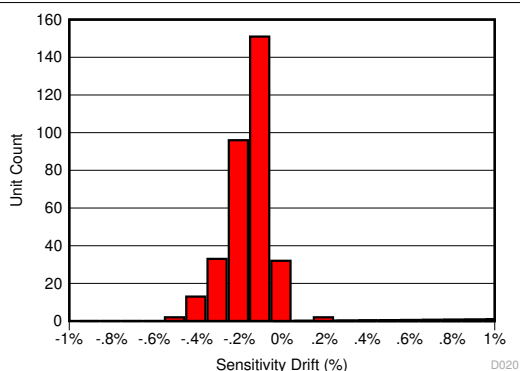
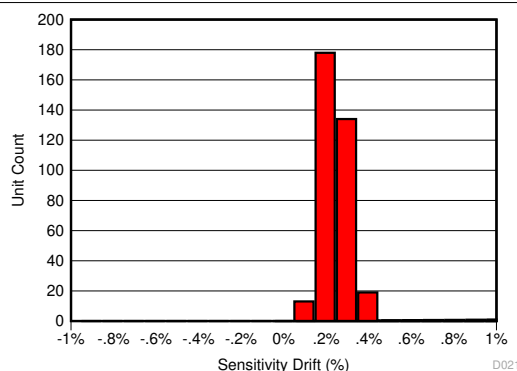
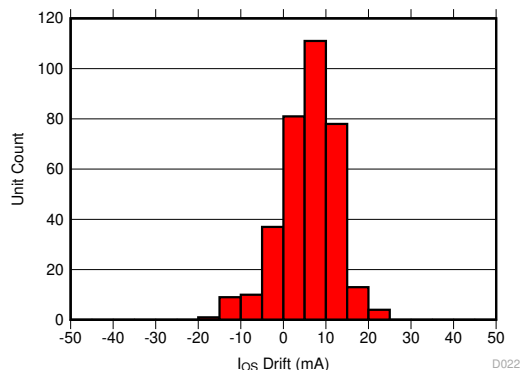

Figure 8-4. Sensitivity Error After 130°C, 85% RH HAST
Figure 8-5. Sensitivity Error Drift After AEC-Q100 High Temperature Operating Life Stress Test
Figure 8-6. Input-Referred Offset Drift After AEC-Q100 High Temperature Operating Life Stress Test
The same compensation techniques used in the TMCS1100 to reduce temperature drift also greatly reduce lifetime drift due to aging, stress, and environmental conditions. Typical magnetic sensors suffer from up to 2% to 3% of sensitivity drift due to aging at high operating temperatures. The TMCS1100 has greatly improved lifetime drift, as defined in the Electrical Characteristics for total sensitivity error measured after the worst case stress test during a three lot AEC-Q100 qualification. All other stress tests prescribed by an AEC-Q100 qualification caused lower than the specified sensitivity error, and are within the bounds specified within the Electrical Characteristics table. Figure 8-4 shows the total sensitivity error after the worst-case stress test, a Highly Accelerated Stress Test (HAST) at 130°C and 85% relative humidity (RH), while Figure 8-5 and Figure 8-6 show the sensitivity and offset error drift after a 1000 hour, 125°C high temperature operating life stress test as specified by AEC-Q100. This test mimics typical device lifetime operation, and shows the likely device performance variation due to aging is vastly improved compared to typical magnetic sensors.